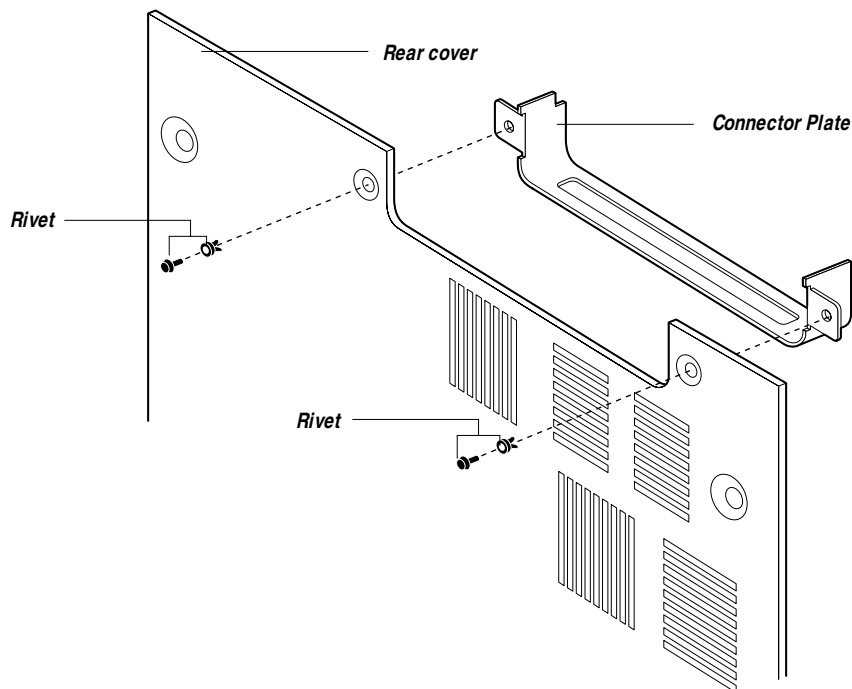

Figure 3-10 Installing the connector plate in the rear cover
2. ***Place the connector plate in the empty slot on the inside of the rear cover (see Figure 3-10 on page 3-12).***
3. ***Insert the black rivets into the connector plate to secure it to the rear cover as shown in Figure 3-10.***